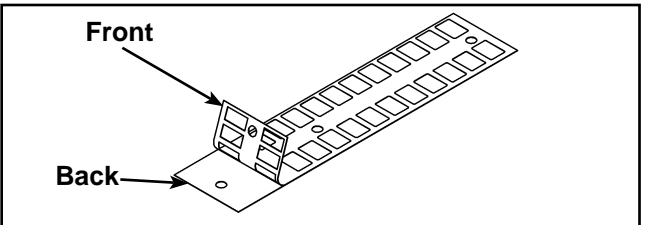

Figure 16
- A. Slowly and carefully peel off back side of decal. See Figure 16. **NOTE:** When peeling off back cover, make sure that the decals remain attached to the front sticker.